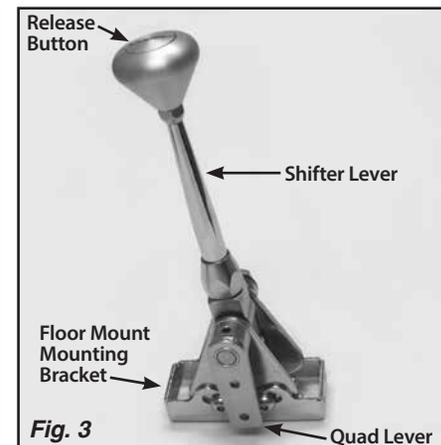

Fig. 3
**Step 4:** Make sure the two 5/16"-24 x 3/8" button head bolts that are in the curved, slotted holes in the left side of the floor mount mounting bracket are tight. Place the Shifter in the desired location on the vehicle's floor. Make sure the shifter lever will not interfere with the dash when in Park, or with the seat when in low gear. The shifter assembly may be tilted forward or backward if needed by loosening the two 5/16"-24 x 3/8" button head bolts that are in the curved, slotted holes in the left side of the floor mount mounting bracket. Retighten the button head bolts in the curved, slotted holes once you have the shifter assembly at the angle you want. Fig. 3